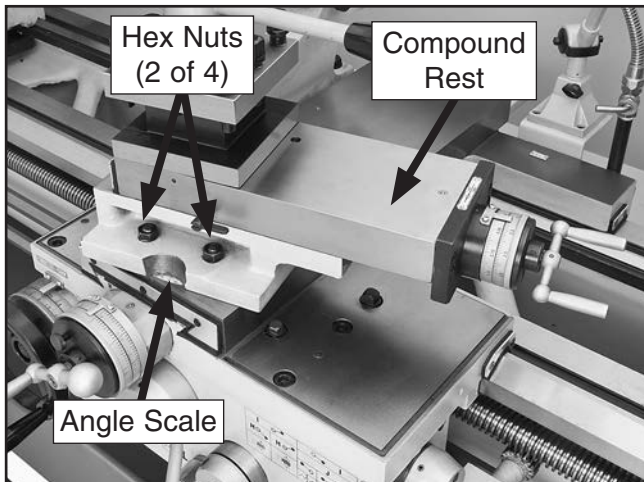

Figure 64. Compound rest angle adjustments.
1. Loosen the four hex nuts at the base of the compound rest (see **Figure 64**).